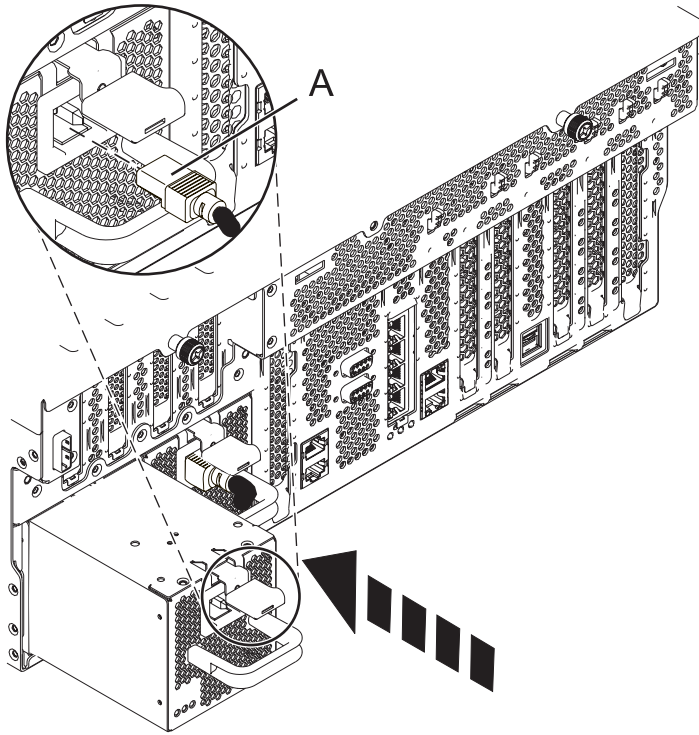

Figure 5. Replacing a power supply
- Push the power supply into the system until the latch locks in place as shown in Figure 5 on page 7.
3. Reconnect the power cable (A) to the front of the power supply, as shown in Figure 5.